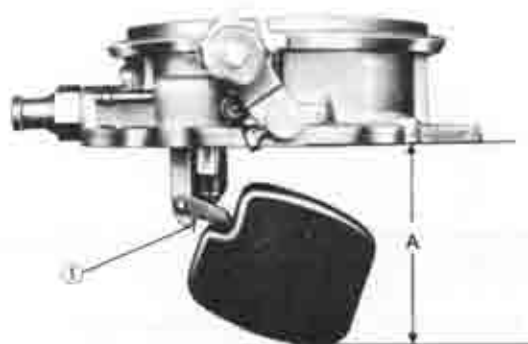

Fig. 4-8. Float level adjustment
Adjust the maximum fuel quantity coming in through the needle valve by bending the float seat lip so that the distance (A) between the lowest part of the float and the lower face of the air horn is 55 – 56 mm (2.1 – 2.2 in), as shown in Fig. 4-8.